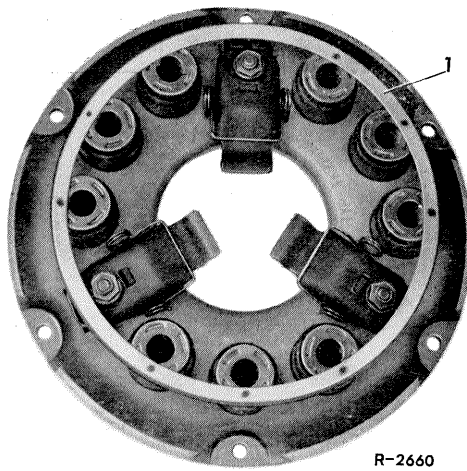

Fig. 18 Clutch thrust plate
Models 230 and 230 S are provided with thrust plate type TK 288 KX which maintains a more uniform speed. This thrust plate has been standard equipment for model 230 SL since January 1965. It differs from the former thrust plates of type TK 288 KX sheet metal ring (1) placed on the spring sockets (refer to Fig. 18).